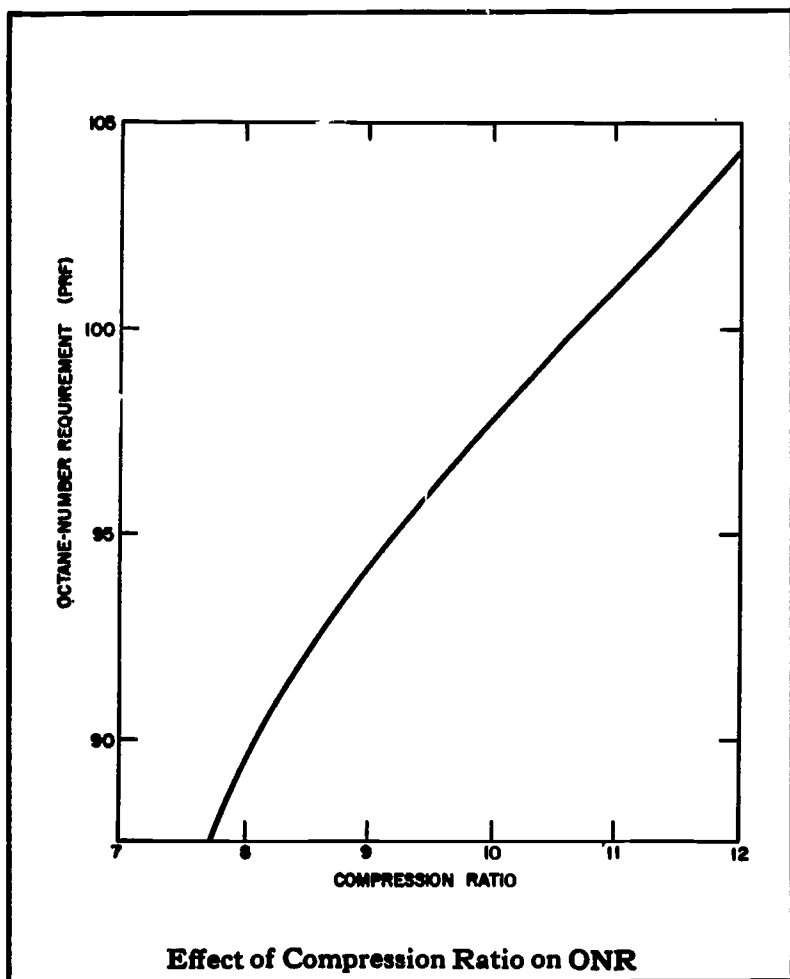

Fig. 2-78
5. High compression ratios lead to knocking, partly because the gas is heated more. The octane number required by engines of various compression ratios is shown in Fig. 2-78.